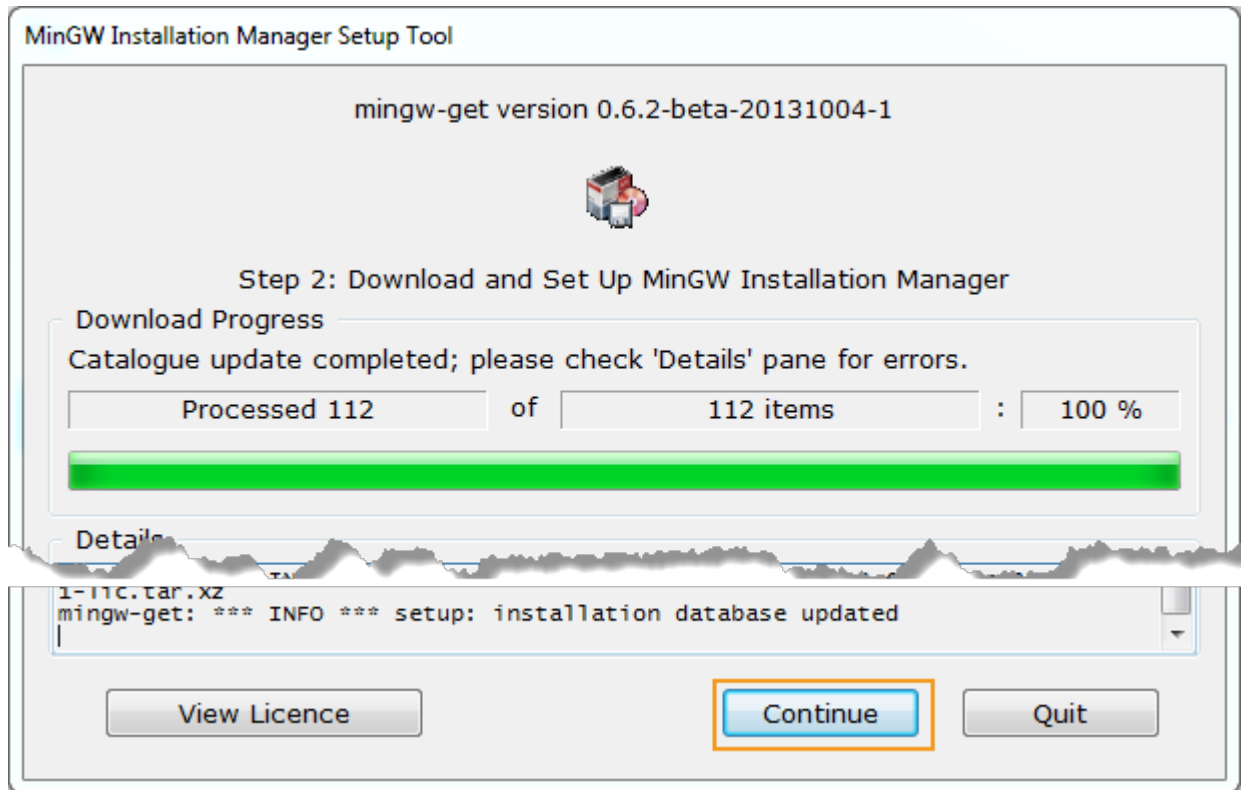

Figure 17. Download and set up MinGW Installation Manager
- 4) Click **Continue** on the **MinGW Installation Manager Setup Tool**, after the download is complete (see Figure 17).